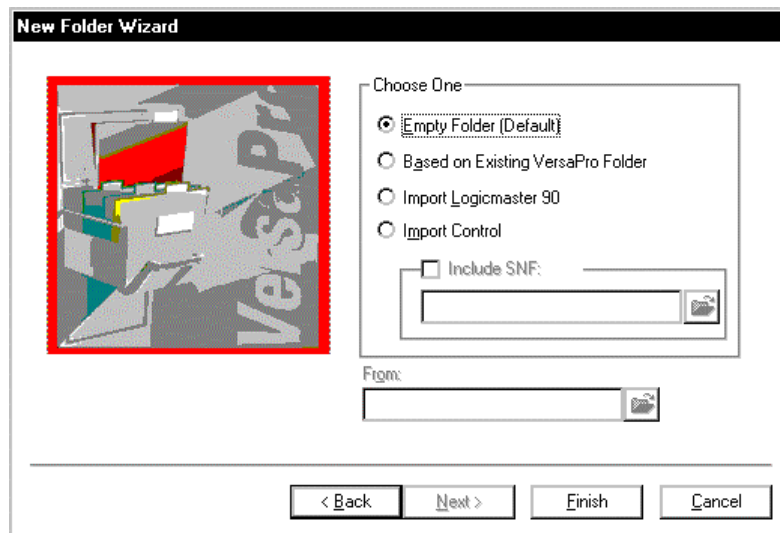

Figure 2-19. New Folder Wizard Page 2
- B. Click the Next button. The next dialog box allows you to start with a blank folder or import from another source. This example starts with a blank folder. (Figure 2-19)